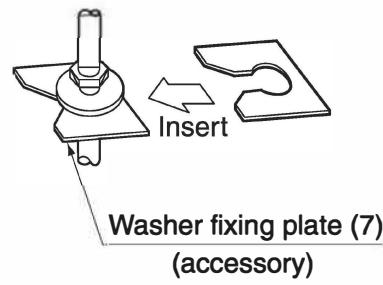

Fig. 11
- The washer fixing plate (7) will prevent the washer from falling. (Refer to Fig.11)